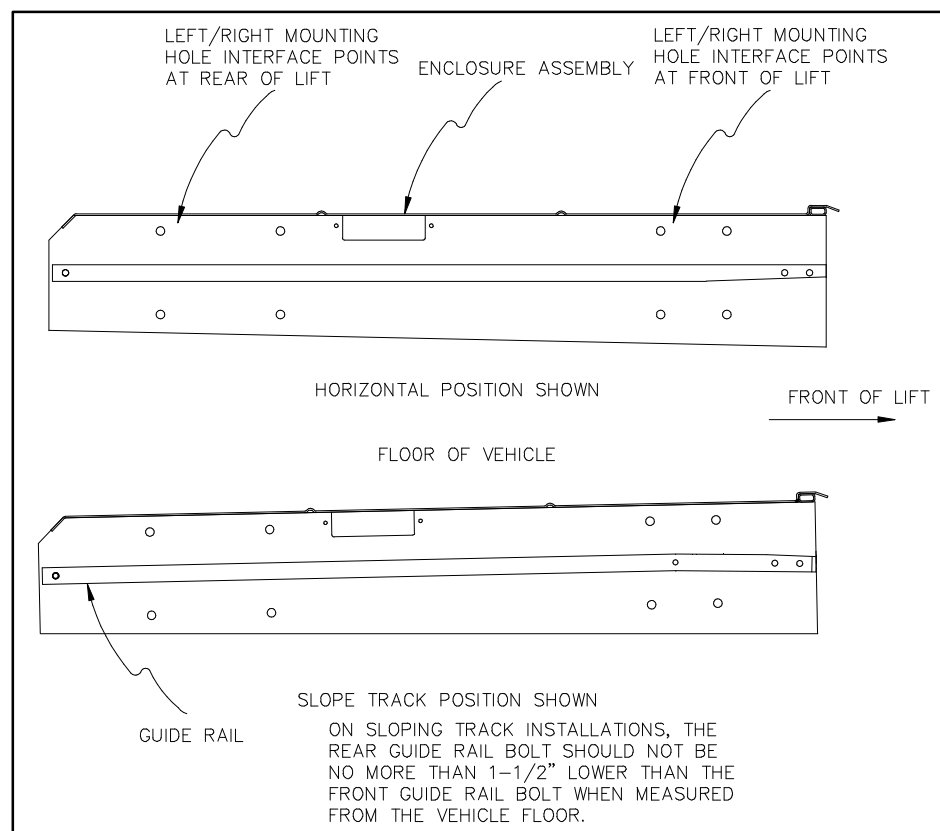

FIGURE 2-1: LIFT MOUNTING ATTACHMENT POINTS
- Refer to **Figure 2-1**. Mechanical support of the lift will be provided at four (two on each side) attachment points. Each attachment point consists of two 5/16-18 threaded inserts.